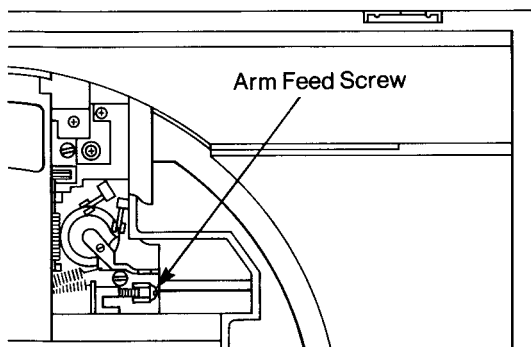

Fig. 5
4. At this time, adjust the arm feed screw through the right hole on the cabinet with a screwdriver, so that the tonearm is elevated straight up. (Fig. 5)